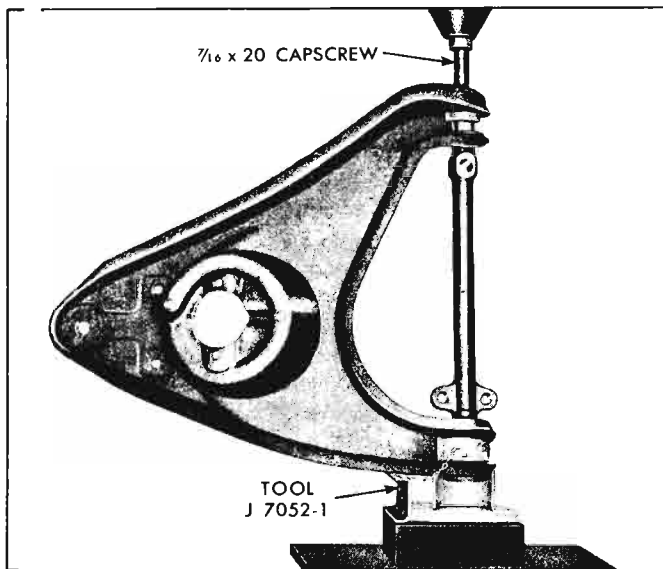

Fig. 3-59—Removing Second Lower Control Arm Cross Shaft Bushing
5. Remove cap screw from cross shaft. Insert it in other end of shaft. Invert control arm on support (fig. 3-59). Again be certain bushing flange does not contact support.